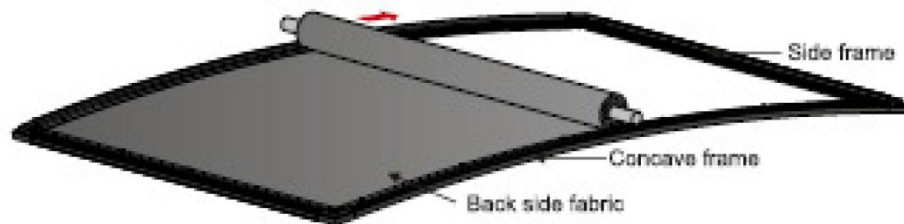

Figure 7
4. Unfold screen fabric as shown (Fig. 7).